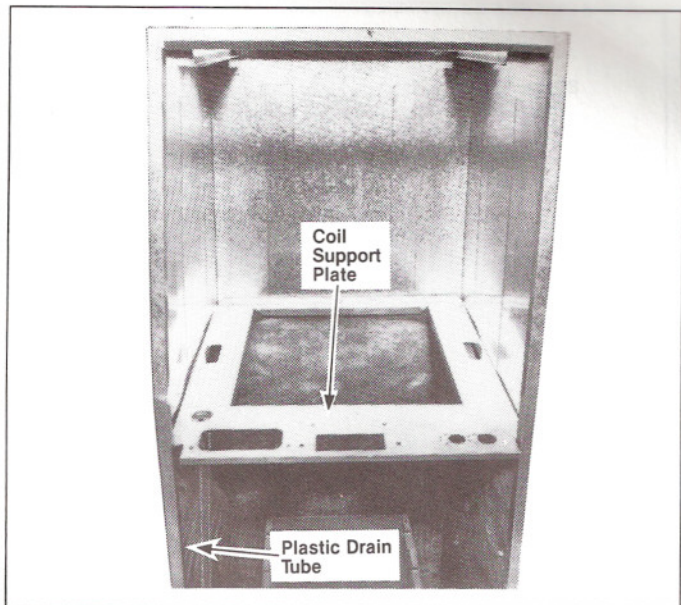

Figure 8. Coil Support Plate
5. Install coil support plate (See Figure 8):